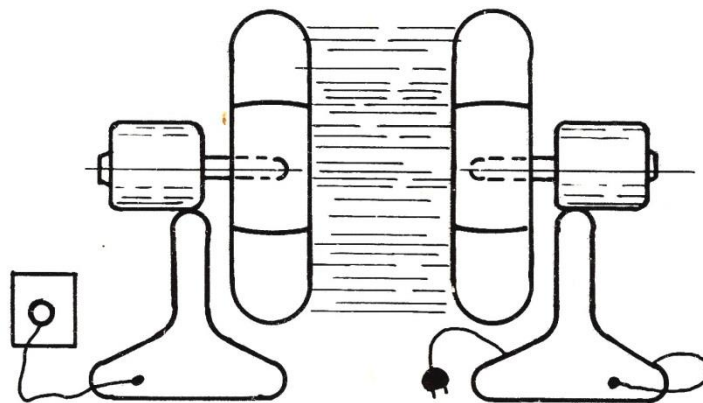

Figure 7.11 Two fans facing each other
3. The current of air from the running fan will now cause the blades of the other fan to turn (as shown in **Figure 7.11**).